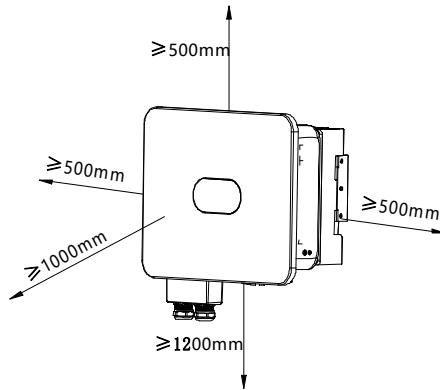

Fig. 4.4 Installation Spacing of Inverter
- (2) Leave adequate space around the inverter to facilitate air circulation, and future handling of the inverter. See Fig. 4.4.